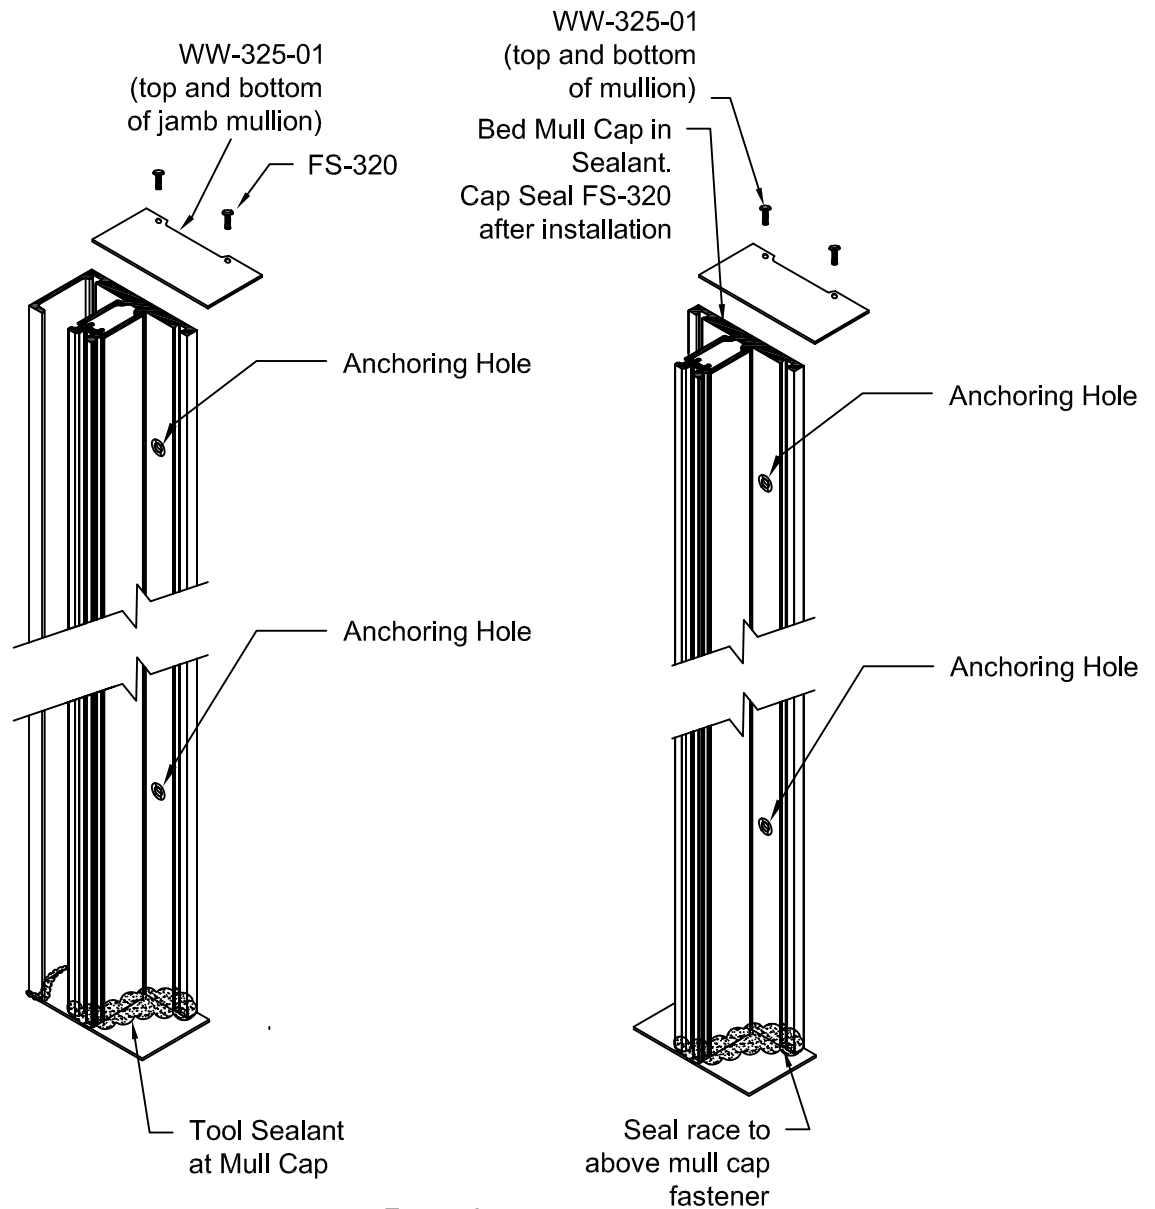

Figure 2
- 1.3 Install and seal end caps to top and bottom of all jamb and intermediate vertical mullions with (2) FS-320 #10 x 1/2" Drive screw. **SEE FIGURE 2.**